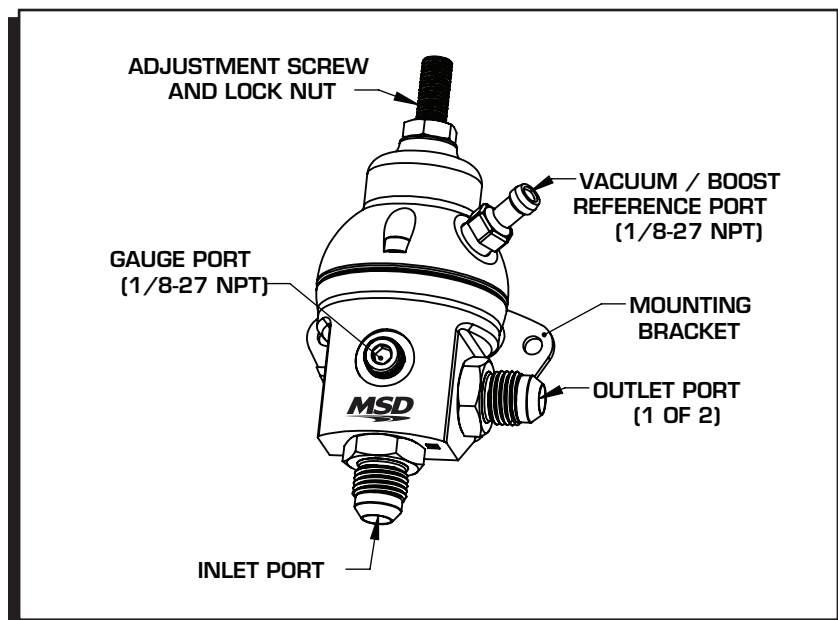

Figure 4 - Regulator Feature Identification Guide
The regulator inlet port is located on the bottom surface, and clearly marked with an identifier machined in the housing (see Figure 4 below). Two (2) outlet ports are available, but typically only one (1) will be used. Install the supplied -6AN port plug in the unused outlet port using a 5/16-inch hex key (Allen wrench). The -6AN straight port fittings should be snugged with an 11/16-inch wrench or deep socket.
Install the supplied 1/8-27 NPT brass hose barb fitting in the upper regulator housing (see Figure 4 below) using a 7/16-inch wrench or deep socket. Thread sealer is not required on this fitting, but can be used if desired. Connect an intake manifold vacuum / boost source to this fitting, or leave it open to the atmosphere if manifold pressure compensation is not required. **DO NOT** plug this opening. Ensure that contaminants (such as water and road spray) cannot enter the open fitting. In the event that vacuum / boost reference is not required, a more cosmetically pleasing option is to install a sintered metal exhaust muffler in this port (such as McMaster-Carr PN 4450K1-Bronze or PN 4402K51-Stainless Steel)